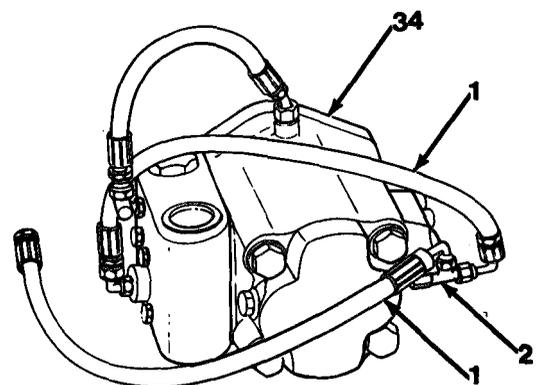

Figure 16-2
2. Remove two hoses (1) and tee (2) from motor (34, Figure 16-2).